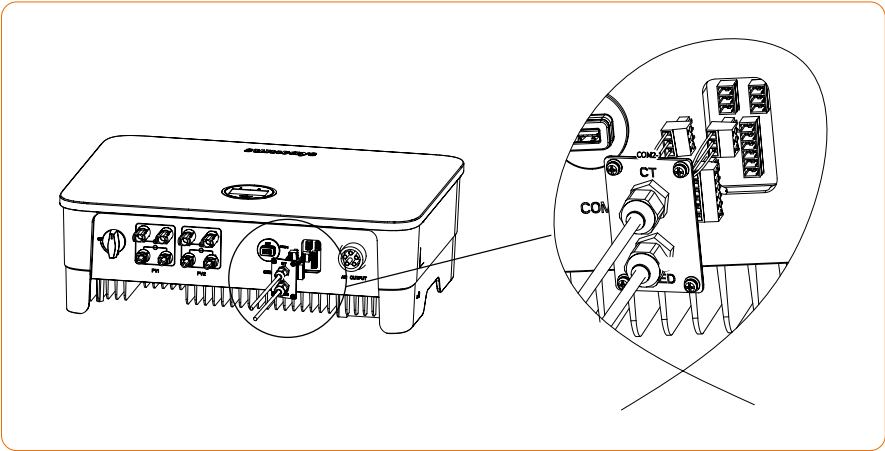

Figure 4-28
- ③ Insert the cable to the port in the 3/6pin connector and fasten with a screwdriver.
- ④ Insert the 3/6pin connector into the 3/6pin connector inside the inverter, and screw the COM2 plate back with a cross screwdriver, as shown in Figure 4-28: